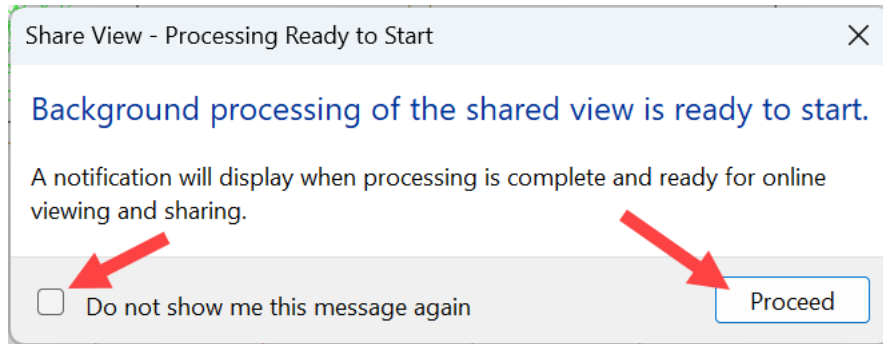

Figure 13.19: The prompt to start background processing of the shared view(s)
10. You will be prompted with a message that background processing of the shared view is about to start, as in *Figure 13.19*. Click on **Proceed**. Note that you can check the **Do not show me this message again** box to bypass this next time if required.